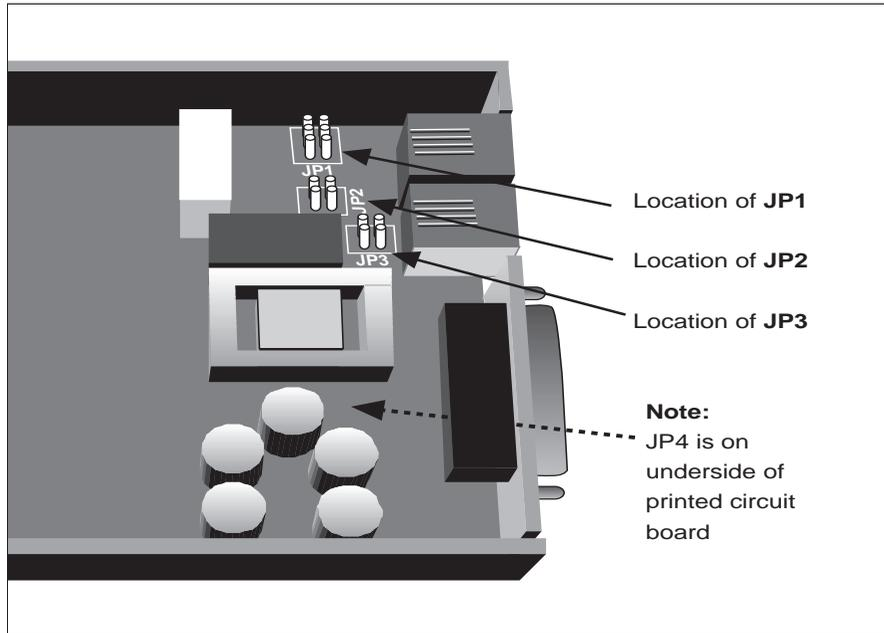

Figure 8-1. Printed Circuit Board Layout
3. Refer to figures 8-1 and 8-2 and ENABLE the JP1 jumper for 2-wire and JP-1 and JP-2 for four wire.